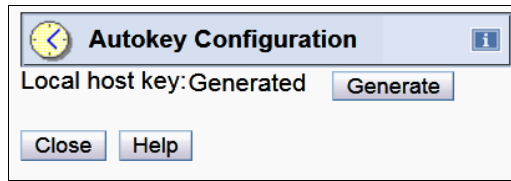

Figure 8-22 Generate Autokey
3. The Autokey Configuration window opens (see Figure 8-22). To generate keys, click **Generate**.